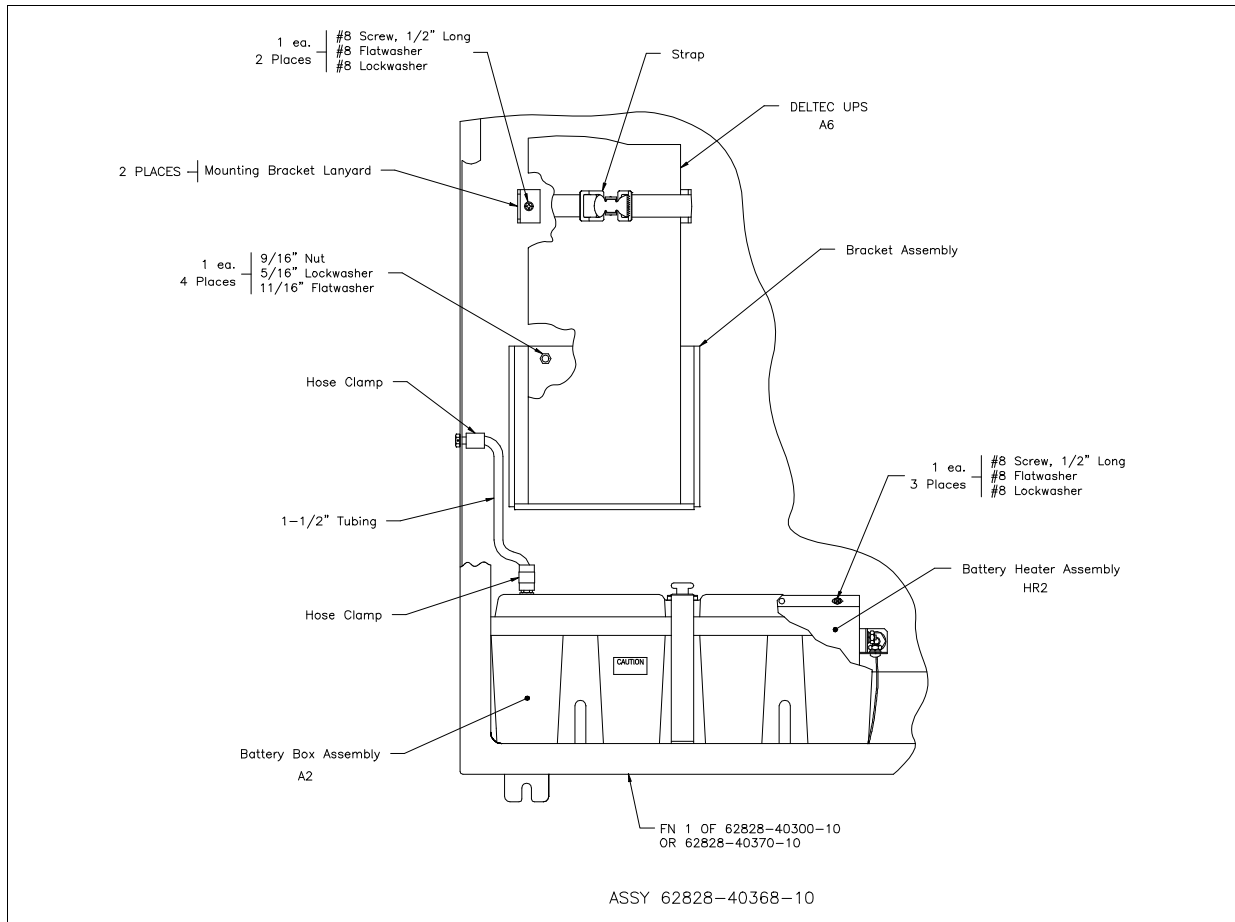

Figure 6 UPS Assembly and Battery Installation
23. Install the UPS kit into the DCP. Refer to figure 6.